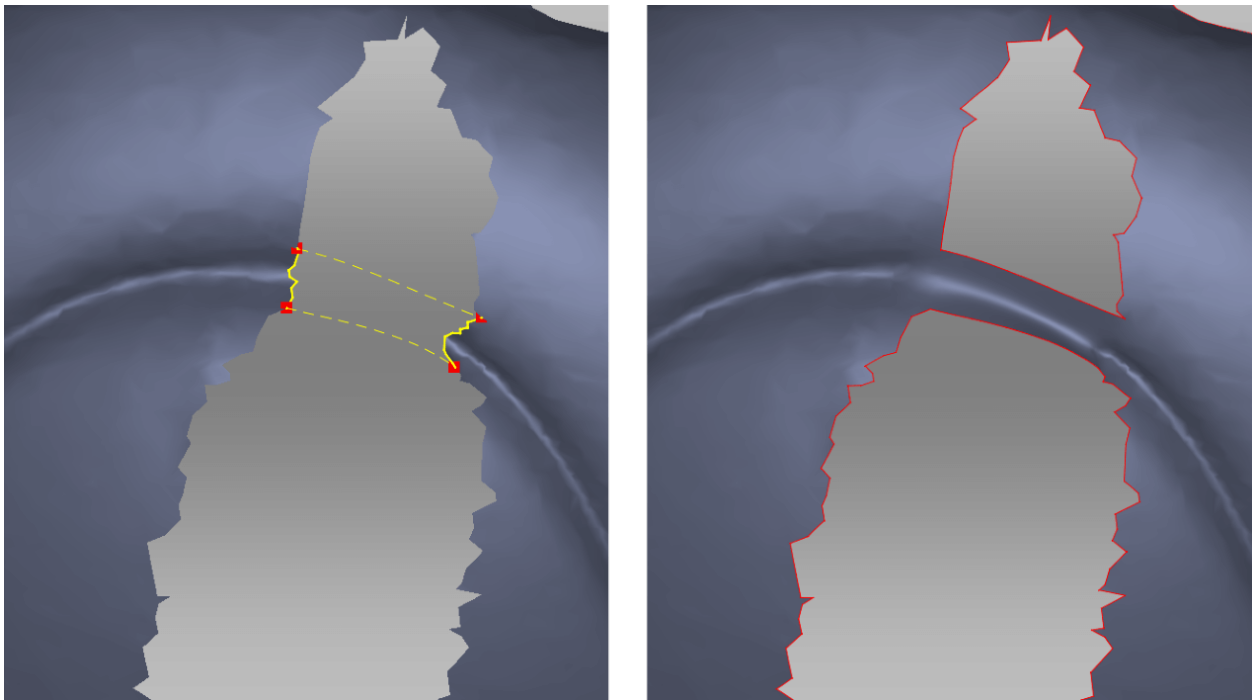

Figure 146: Specifying fragments. Correct fragments can resolve original geometry.
2. Specify two opposite fragments¹ between which a bridge will go (Figure 146). There are two ways to do this:
Preserve the original geometry (Figure 146)	Clear the Smooth edges first checkbox